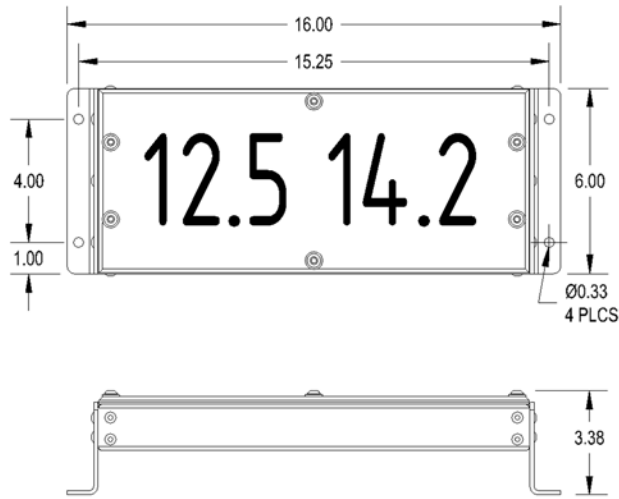

Figure 1. Chassis Mounting Measurements
1. Mount the chassis accordingly per Figure 1.